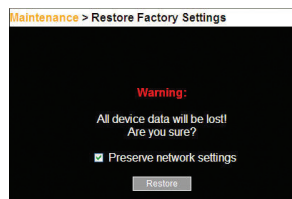

Figure 24 Restore factory settings
- From the menu, select "Restore Factory Settings". The Restore Factory Settings page appears (see Figure 24).